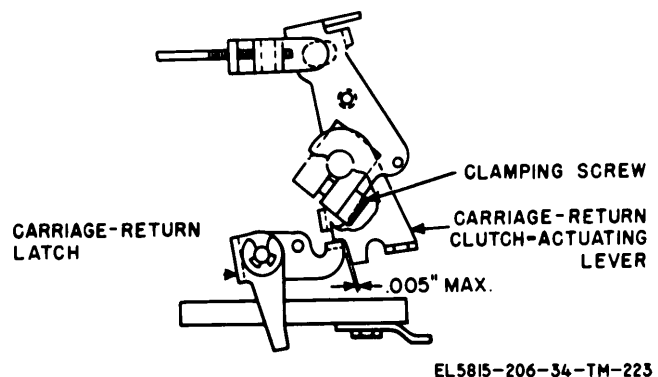
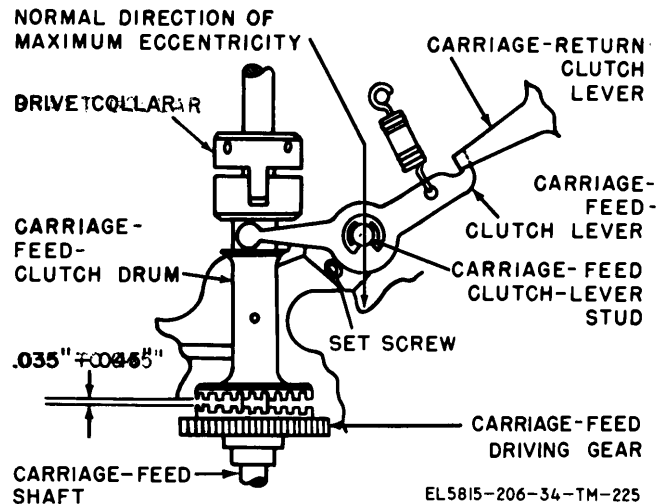

Figure 3-151. Carriage-return clutch actuating-lever adjustment (TT-4B/TG, TT-4C/TG, TT-335/TG, TT-537/G, TT-698A/TG, and TT-698B/TG).
Figure 3-153. Carriage-feed-clutch drum adjustment.
(fig. 3-151)
*b. Method of Checking.* When the carriage is two or more spaces from the left-hand margin and the motor is off, select the carriage-return operation. Release the transfer lever and turn the motor by hand until the carriage-return clutch is fully engaged. Manually hold the carriage-return-clutch-lever (fig. 3-153) in a counterclockwise direction and check clearance with a feeler gage.
*c. Adjustment.* Disconnect the carriage-feed clutch-lever spring (fig. 3-153) and the horizontal carriage-return link (fig. 3-169). Manually hold the carriage-return-clutch members in full engagement. Loosen the clamping screw (fig. 3-151) and rotate the carriage-return clutch-actuating lever to meet the requirement (*a* above). Hold the carriage-return clutch-actuating lever down against the shaft collar and tighten the clamping screw. Reconnect the carriage-feed clutch-lever spring and make the carriage-return clutch adjustment (para 3-185). Check the related adjustments (para 3-199, 3-200, and 3-238).
(fig. 3-153)
(3) Loosen *one* of the two setscrews that hold the drive collar (fig. 3-153) to the carriage-feed shaft and turn the shaft until the other setscrew in the collar is straight up. Remove the double-blocking lever spring (A, fig. 3-155) and manually disengage the carriage-feed clutch (fig. 3-153). Rotate the carriage-rack driving gear (A, fig. 3-158) until the decelerating cam (B, fig. 3-154) is set as closely as possible to the position described in *a* above. Engage the carriage-feed clutch and replace the double-blocking lever spring.
*a. Requirement.* The carriage-return latch-tripping arm should trip the carriage-return latch when the decelerating cam reaches the position shown in B, figure 3-154, and the carriage-feed clutch members (fig. 3-153) are aligned to mesh.